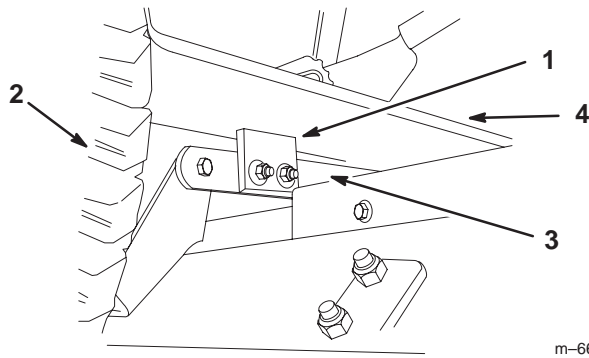

Figure 19
3. Raise the attachment lift lever or electric lift all the way up. Check if bumpers, on rear of mower draft bars contact under footrests (Fig. 19).